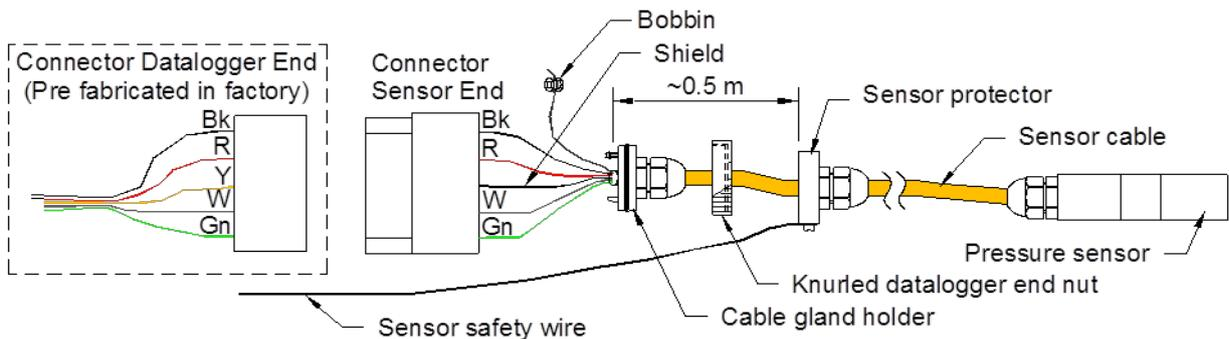

Figure 8-17: Datalogger to sensor cable wire assembly
8.7.22 Connect datalogger connector end to the sensor end connector as in figure 8-17.